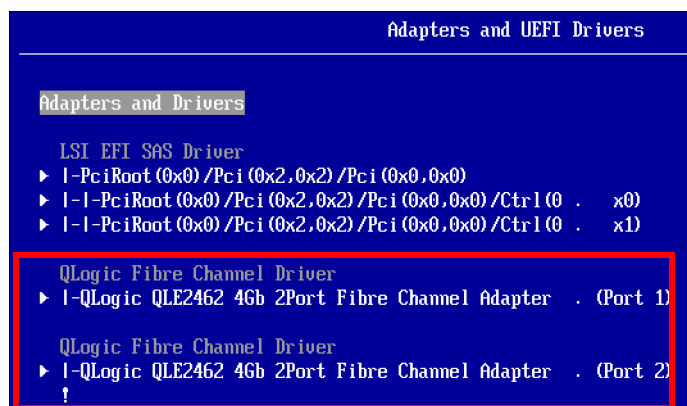

Figure 6-43 Adapters visible in UEFI
- ▶ Check whether UEFI recognizes the adapter. Select **UEFI** → **System Settings** → **Adapters and UEFI Drivers**. The Adapters and UEFI Drivers panel displays, as shown in Figure 6-43. You need to see Card - HBA. If not, reflash the UEFI, IMM, and firmware of the HBA and check again.